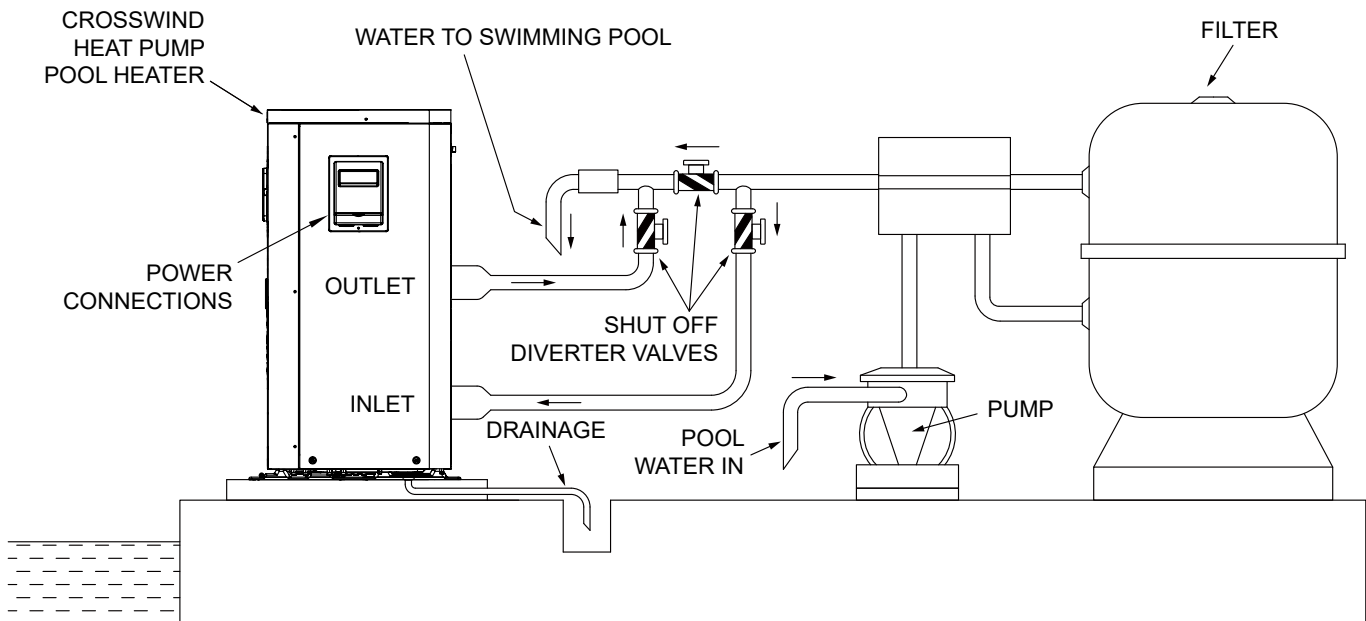

Figure 6. Piping Layout
The heater Inlet and Outlet connections are NOT interchangeable. They must be connected as instructed below in **Figure 6**.
1. Connect the heater in the return water line between the filter and the pool/spa. See the piping layout shown in **Figure 6**.
Install any automatic chemical feeders downstream of the heater. See the piping layout shown in **Figure 6**.